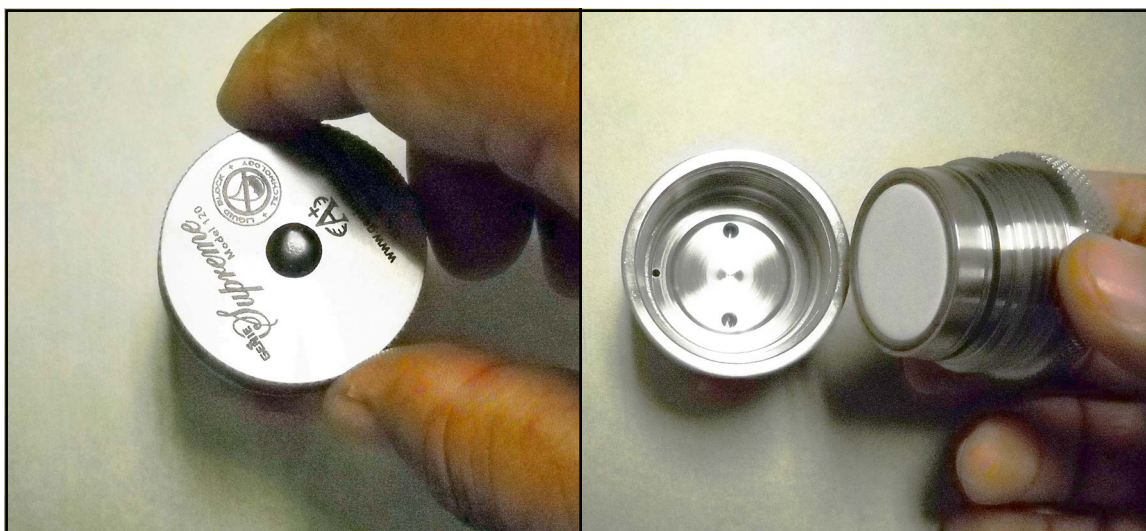

Figure 100: Removing the Filter Cap
2. Turn the filter cap counter-clockwise (see *Figure 100* on page 114). You might need to use a channel-lock wrench to assist in loosening the cap.